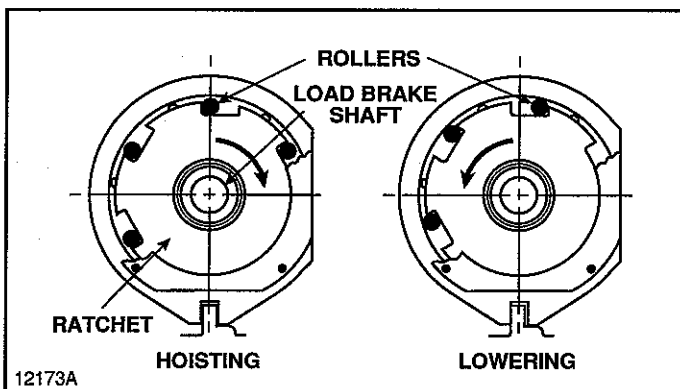

Figure 8-5. Illustration of Roller-Ratchet Brake.
c. Operation. Figure 8-5 shows the action of the roller-ratchet load brake in both hoisting and lowering. The slots cut into the ratchet are sloped in a manner which forms a clearance between the rollers and the retaining plate (outer race) when the ratchet is rotated in the hoisting direction. However, when rotating the ratchet in the lowering direction, the slot slopes so as to force the roller into a wedged position. This action stops the ratchet from further rotation.